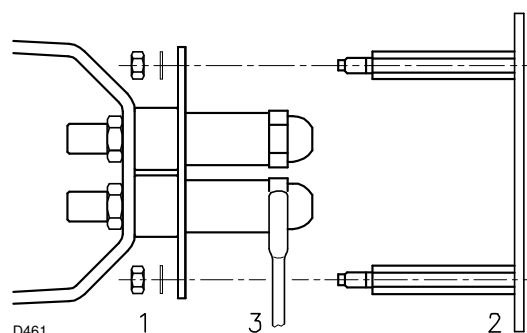

Fig. 14
- Remove the nuts 1)(Fig. 14) and the disk 2)(Fig. 14).
- Use spanner 3)(Fig. 14) to change the nozzles.